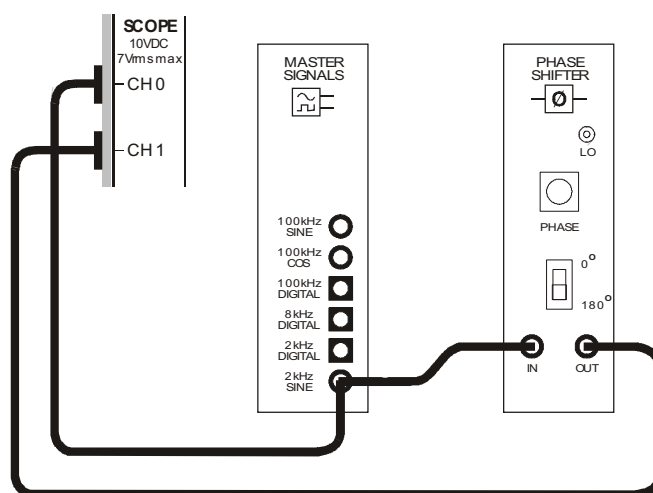
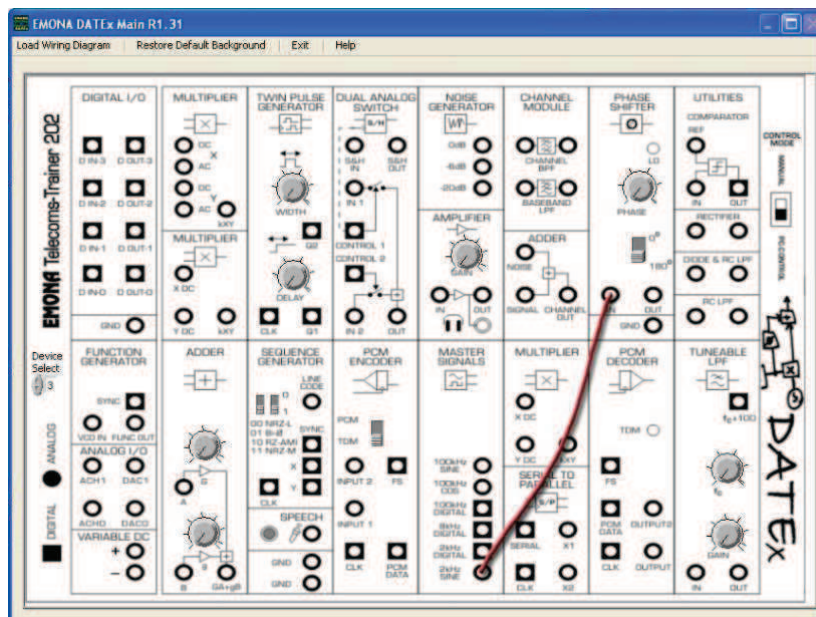

Figure 13
Figure 14
47. Connect the set-up shown in Figure 13 below.
A pre-wired background corresponding to Figure 13 of this chapter is shown below as Figure 14.